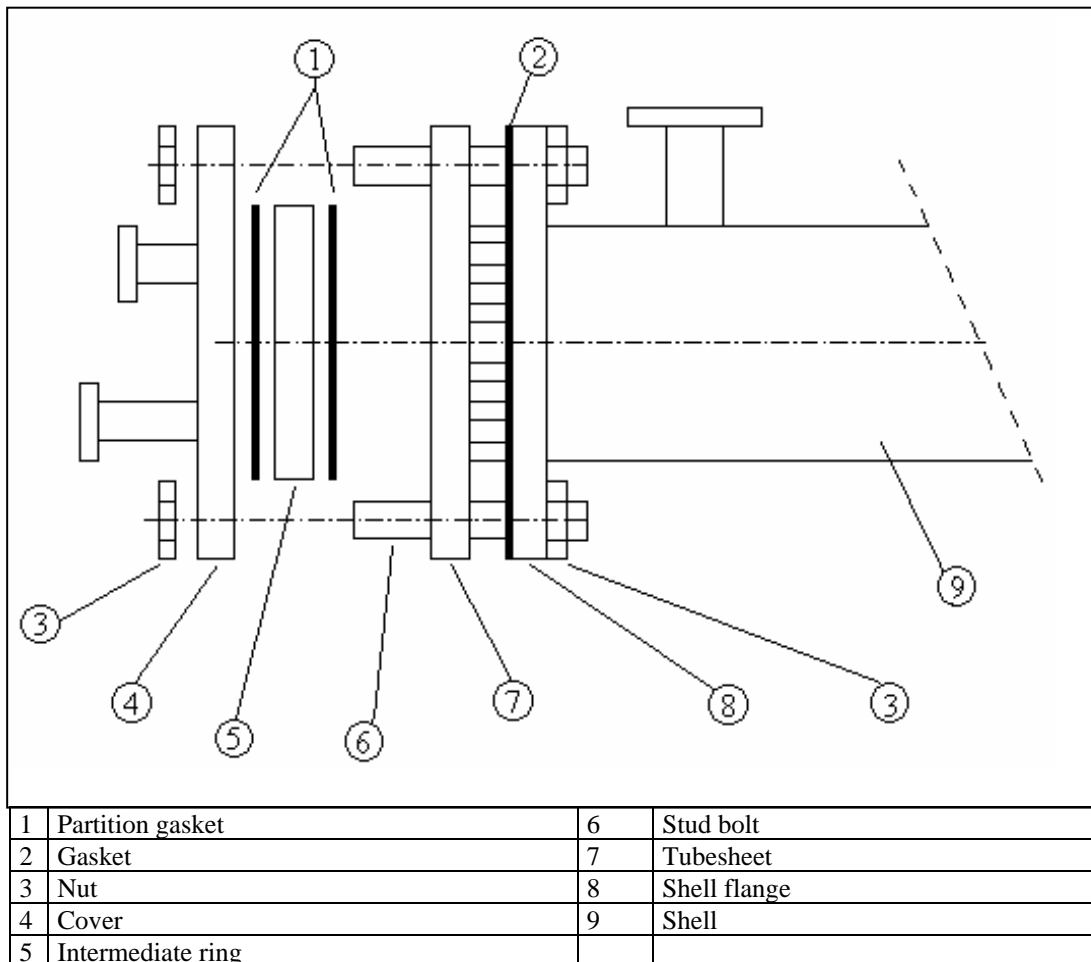

Figure 1b: Schematic drawing of tubesheet construction HP-version
- **HP-version:** The tubesheet has bolt holes without thread or has a diameter within the bolt circle and is kept in position by the cover, the intermediate ring and the shell flange (figure 1b).